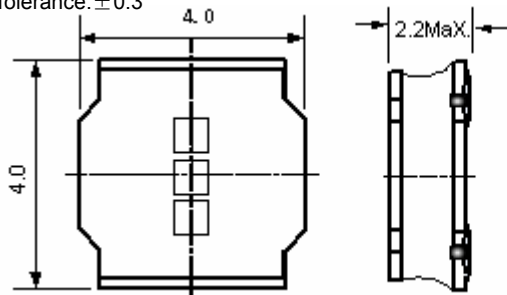
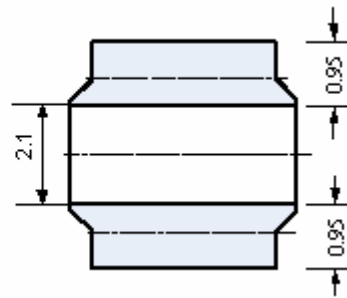

Fig. 4-1
Fig. 4-2
- Dimensions: See **Fig. 4-1**, **Fig. 4-2**.